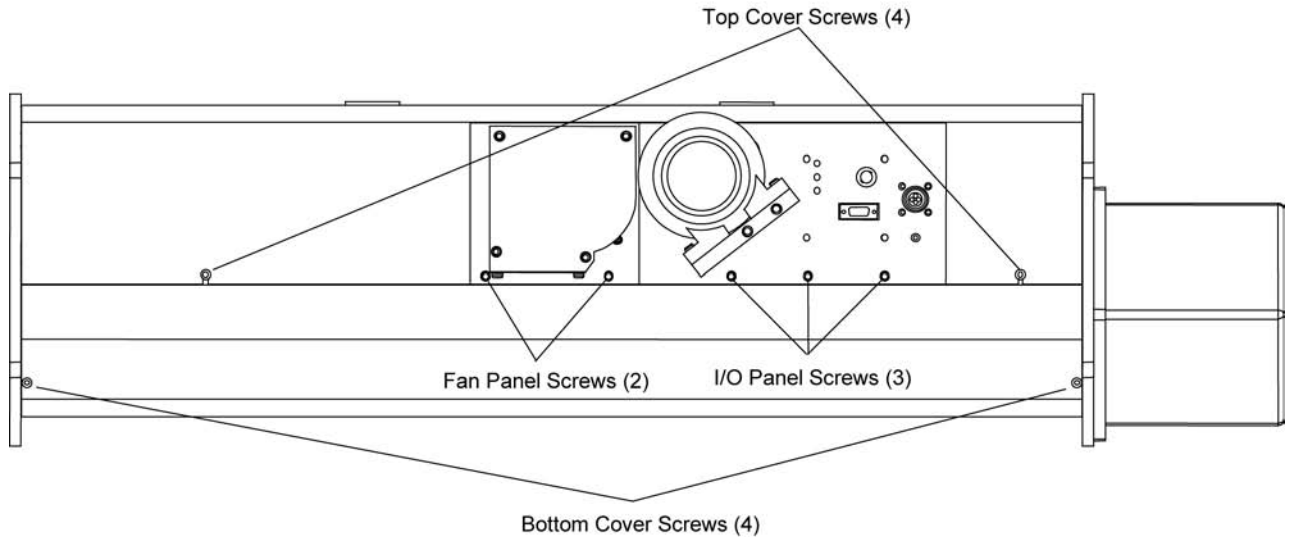

Figure 8-31
- 2.** Loosen the four screws fastening the top cover of the Nephelometer and remove the cover (Figure 8-31).
- ❑ The more difficult method is to pry off the bottom cover without removing the I/O panel and the fan panel. Unscrew the four bottom cover screws (Figure 8-31). *Carefully* remove the bottom cover, working alternately at both ends. Pry the edges of the cover apart, and ease the cover away from the body of the Nephelometer.
- ❑ The easier method takes more time. After removing the I/O panel, the fan panel and the end plate, slide the bottom cover off the body of the instrument. Using Figure 8-31 as a reference: